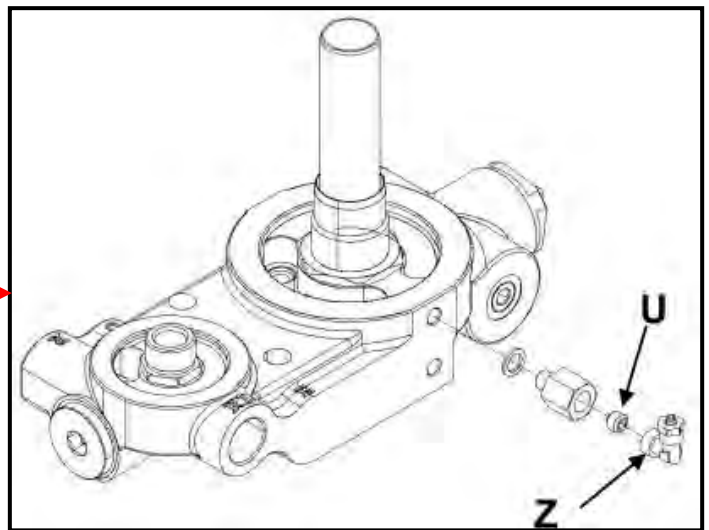

Figure 13.4-4 Oil recovery
If control and cleaning of the oil recovery nozzle is to be performed. Should you find a leak of oil mist mixed with compressed air, proceed with the following steps. (Figure 13.4-4).
- 1) Unscrew the fitting located at the center of the tank (Letter Z in Figure 13.4-4);
- 2) Inside the 90 degree fitting (Letter Z in Figure 13.4-4) is a nozzle (Letter U in Figure 13.4-4): make sure that its calibrated hole is not blocked (blow with compressed air);